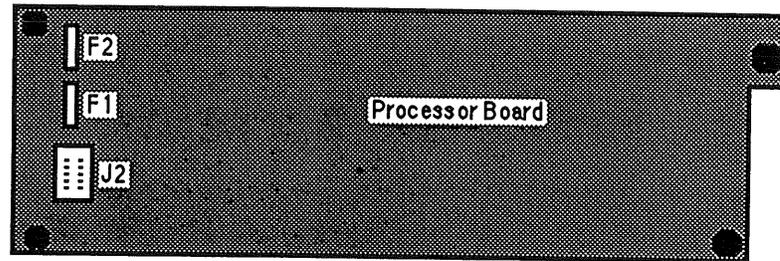

Figure 3-3. Fuse and J2 Connector Locations.
- 4) Disconnect the J2 connector from left side of the Processor Board (see Figure 3-3). Note that this connector is keyed for proper reconnection.
- 5) Two 1.5 amp resistor-type fuses (labeled F1 and F2) are located on the upper left corner of the Processor Board (see Figure 3-3).